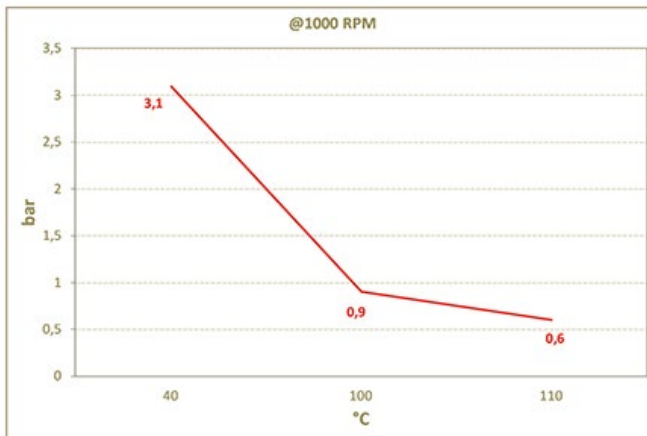

Fig. 12.7
3. Start the engine at idle speed and without a load, check the oil pressure value according to the oil temperature (**Fig. 12.7**).
NOTE : The graph in **Fig. 12.7** illustrates the pressure line with speed of 1000 Rpm.
4. If the pressure values are below the values indicated in **Fig. 12.7**, check to identify the cause of the problem.